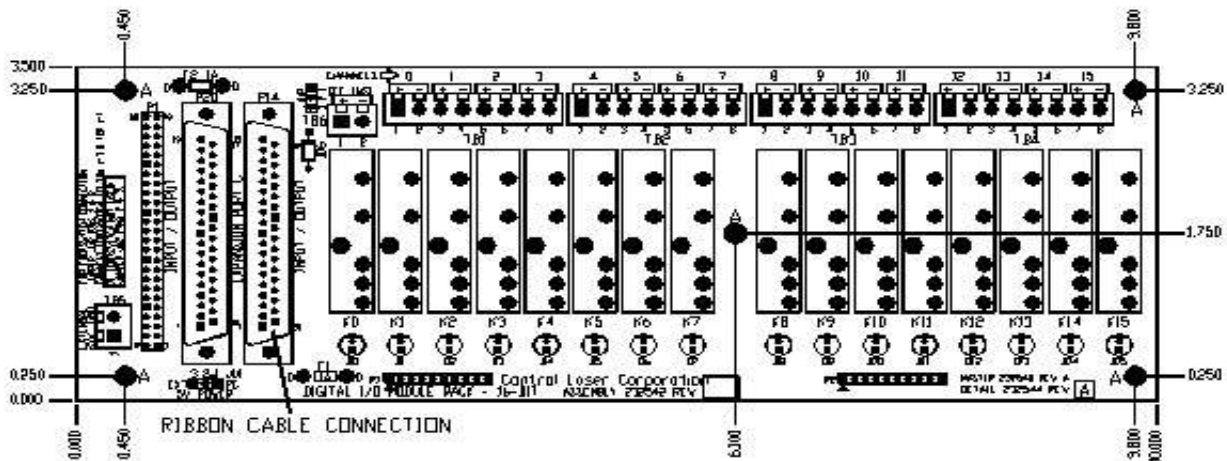

Figure 4-3. Optional I/O Module
1. To locate the I/O rack assembly at a greater distance such as in a workstation, a "round-to-flat" type of ribbon cable is used for the interconnecting cable to be run through the conduit. *Figure 4-3* illustrates the I/O board assembly layout.